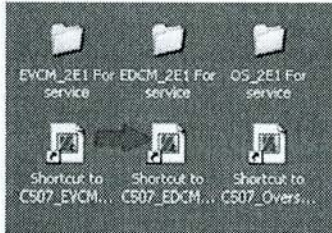

Figure 10
2.6. Double click the "EDCM 2E1" shortcut (arrow Figure 10) on the computer's desktop to open the calibration tool.